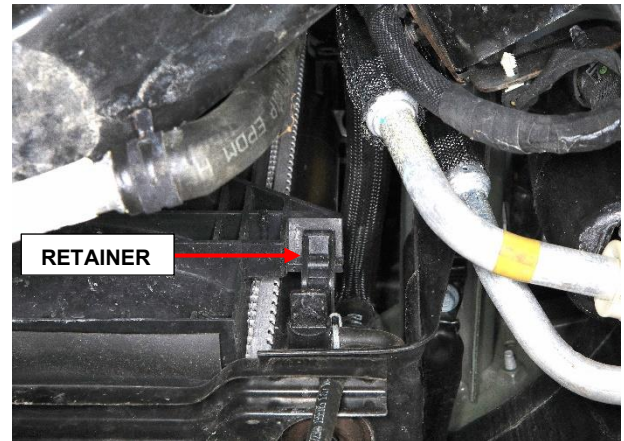

Figure 6 – Cooling Fan Retainer
12. Lifting upward, disengage the cooling fan from the lower shroud retainers (Figure 6).